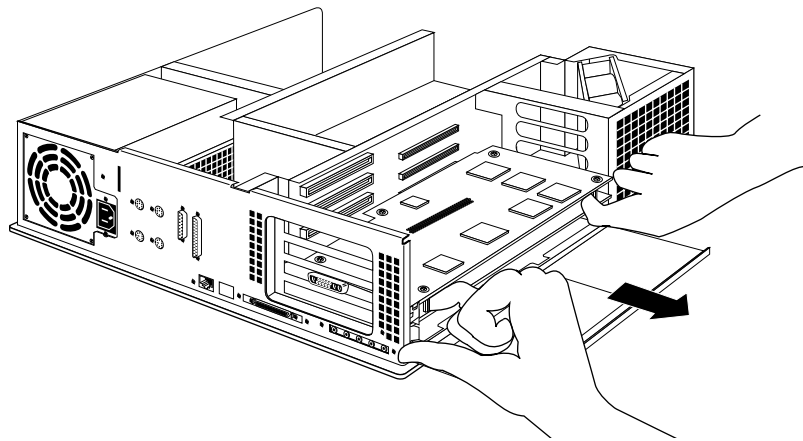

Figure 2-11 Removing XZ graphics
5. Pull the board set out of the system, as shown in Figure 2-11.